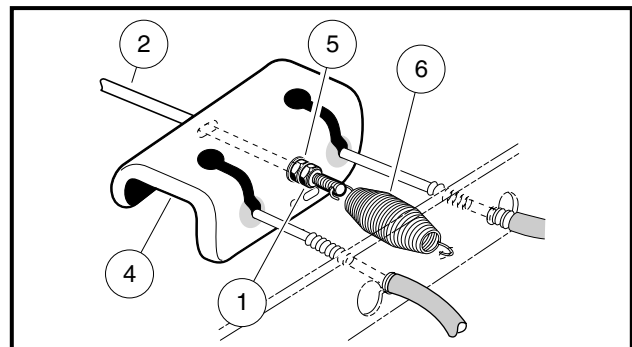

Figure 6-31 Rear Equalizer Adjustment
- 1.1. To provide slack in the brake cables, loosen the equalizer retaining nuts (1 and 5) on the equalizer rod (2) (**Figure 6-31, Page 6-15**).
- 2.2. Tighten the jam nut (5) on the rear equalizer rod (2) clockwise to 35 in-lb (4 N·m) (**Figure 6-31, Page 6-15**).
- 2.5. Hold the jam nut (5) on the rear equalizer rod (2) in place with a wrench and tighten the lock nut (1) to 13 ft-lb (17.6 N·m) (**Figure 6-31, Page 6-15**).
- If the brake pedal return spring (6) was disconnected while equalizing the brake cables, be sure to reconnect it before proceeding (**Figure 6-31, Page 6-15**).
2. Release park brake and loosen equalizer retaining nuts (1 and 5) on equalizer rod (2) to slightly loosen brake cable (**Figure 6-31, Page 6-15**).